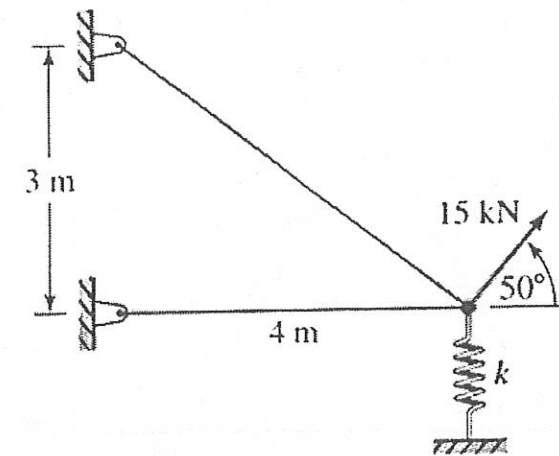

Figure. 3
- (b) Figure 3 shows a two-member plane truss supported by a linearly elastic spring. The truss members are of a solid circular cross-section having  $d = 20$  mm and  $E = 83$  GPa. The linear spring has stiffness constant 50 N/mm. Assemble the system global stiffness matrix and calculate the global displacements of the unconstrained node.